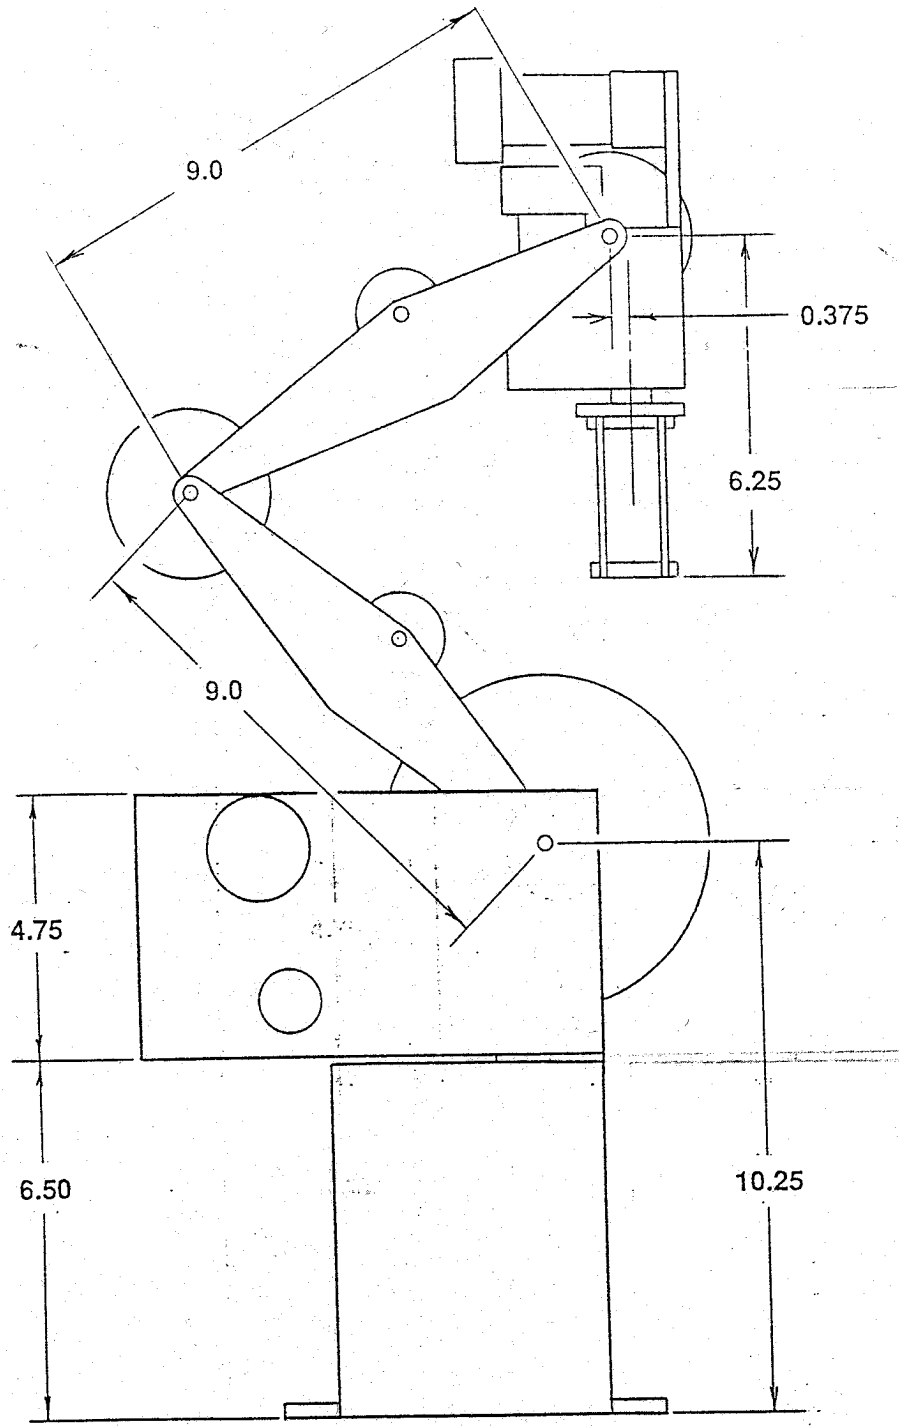

Figure 4: Rhino XR system : specification
- Link length for finding D-H parameters is shown in Fig. 4.